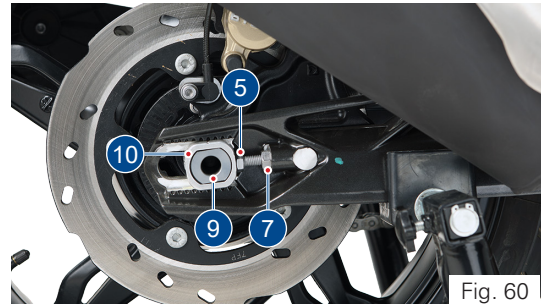

Fig. 60
- Remove the chain tensioner with hugger (8) and push the quick-release axle to the right as much as possible (ref. Fig 60).
- Carefully pull out the quick release axle (9) from the left side and take out the chain tensioner (10) (ref. Fig. 60).